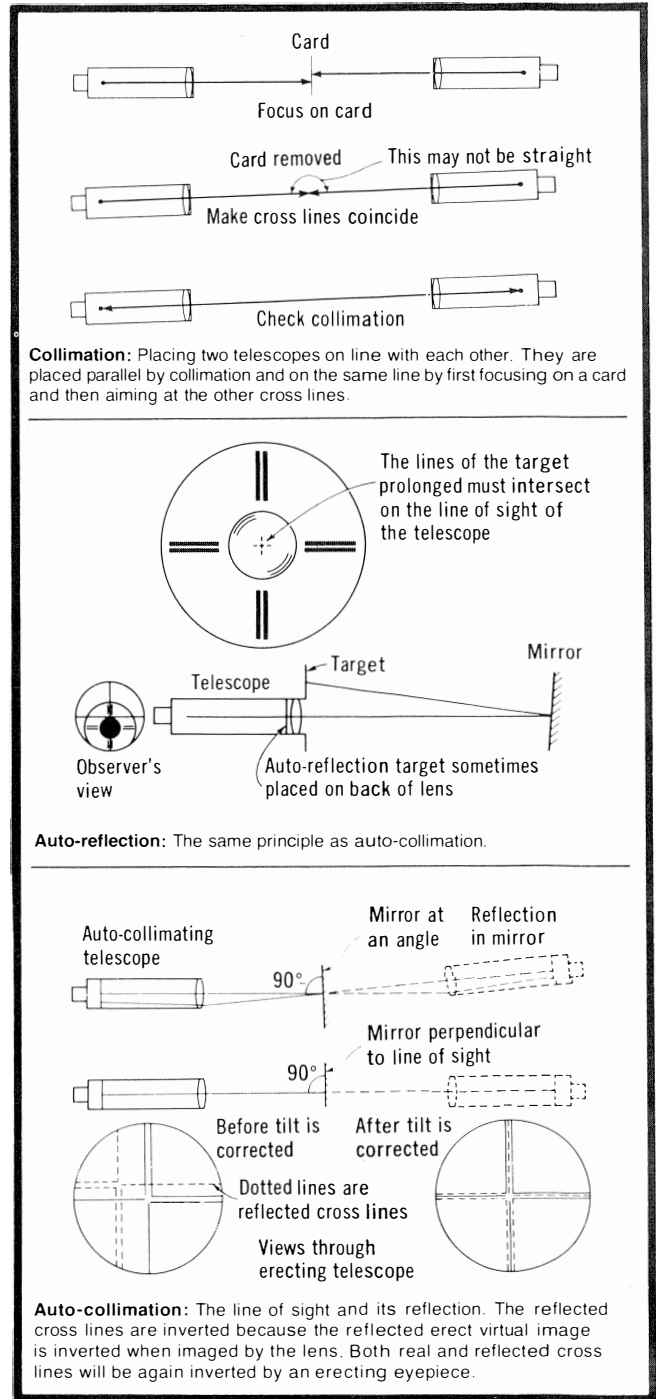

Figure 12. Pictorial Description of three methods of alignment.
optical alignment is a must. The only things which you as a user must understand are these three methods of alignment in order to fully exploit the optical instruments being discussed. The three techniques are (1) collimation, (2) auto-reflection, and (3) auto-collimation. Figure 12 indicates the basic principles involved in these techniques. With the knowledge, you can easily outline an optical alignment procedure that will allow your people to align any given machine both quickly and easily.